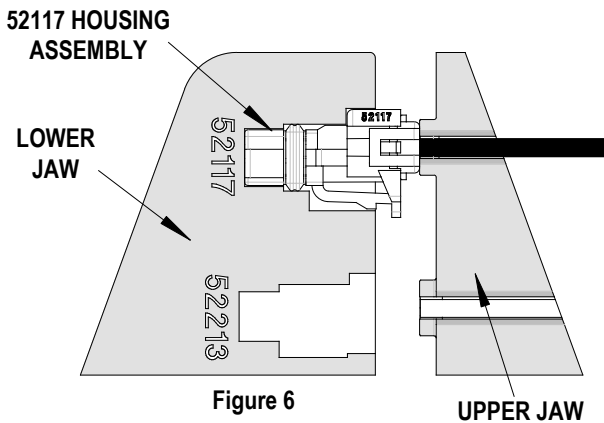

Figure 6
5. Slowly close the handles until the upper jaw contacts the cap of the housing. See Figure 6.